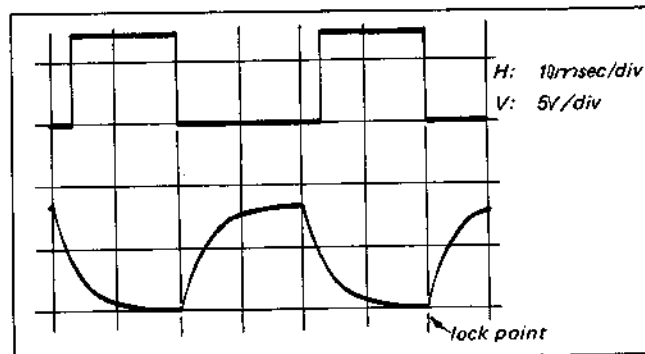

Fig. 4-3-1. Drum free speed adjustment
- (3) Confirm that the waveform locks as shown in Fig. 4-3-1.